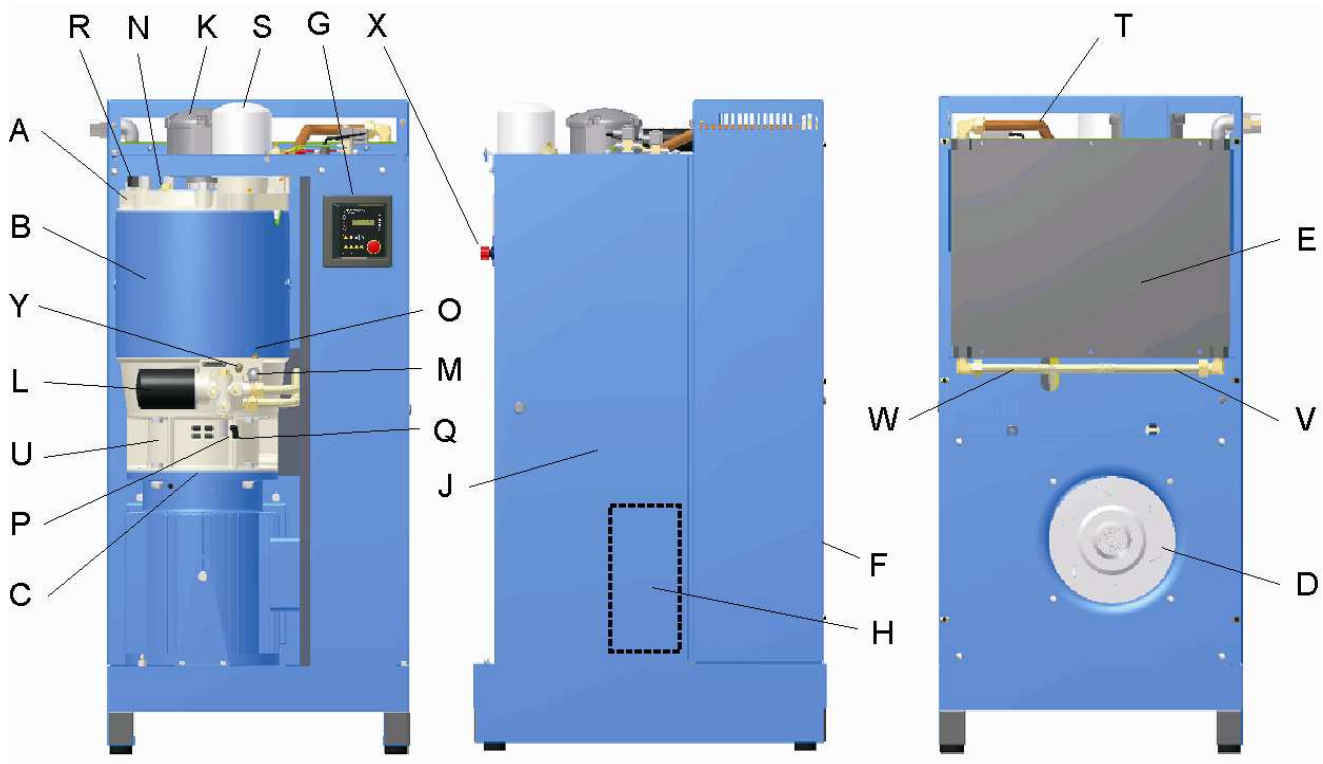

Fig 4.2 Compressor Assembly
Figure 4.1 shows general views of typical units, the compressor assembly is detailed in Para 4.3/ Fig 4.2, the air dryer is supplied with its own manual.
4.3 Compressor Assembly (Fig.4.2)